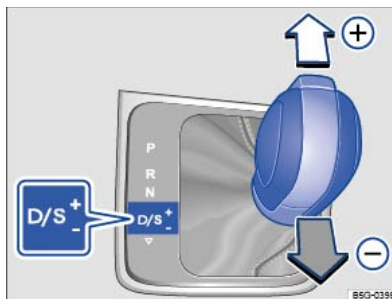

Fig. 124 Selector lever in Tiptronic position (left-hand drive). The controls are mirrored for right-hand drive vehicles.
- Gently push the selector lever forwards ⊕ or back ⊖ to shift gear up or down ⇒ Fig. 124.